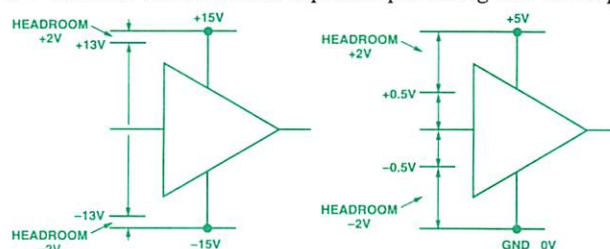

Figure 1. Illustration of headroom in relation to supply voltage.
**Dynamic Range:** Dynamic range is perhaps the most significant tradeoff in using conventional op amps in a single-supply design. Decreased dynamic range reduces signal-to-noise ratio, which ultimately limits usable system resolution. For example, a conventional bipolar op amp operating from  $\pm 15$ -volt supplies (Figure 1 left) usually requires a fixed "headroom" of from 1.5 V to 3 V between its maximum input/output swing and the supply
If the supply voltage is now reduced to a single +5 V supply (Figure 1 right), the full-scale range is severely limited to  $2 \times (2.5 \text{ V} - 2 \text{ V}) = 1.0 \text{ V p-p}$ , because of the essentially fixed headroom. If one can assume that the amplifier's noise floor is unchanged, the reduction in signal swing reduces the effective dynamic range in the same proportion.